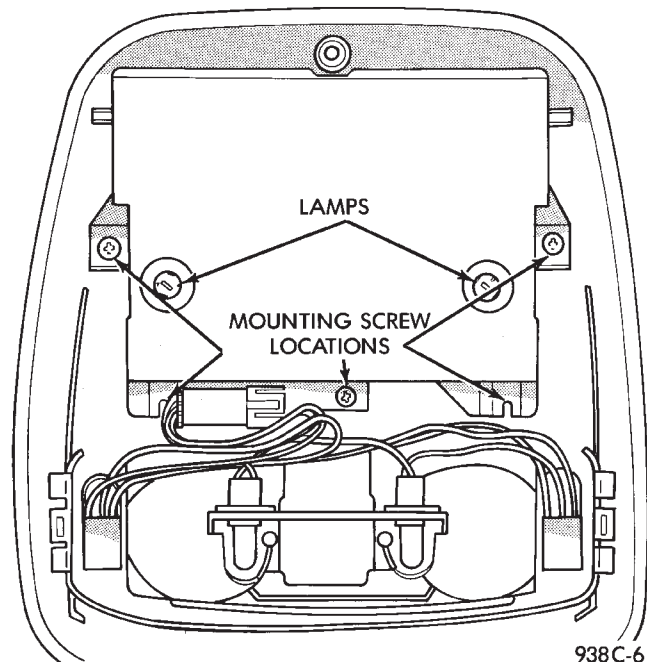

Fig. 9 OTIS Removal
- (1) Remove overhead console, refer to above procedures.
- (2) Remove mounting screws and release the map lamp wire connector from the OTIS (Fig. 9).